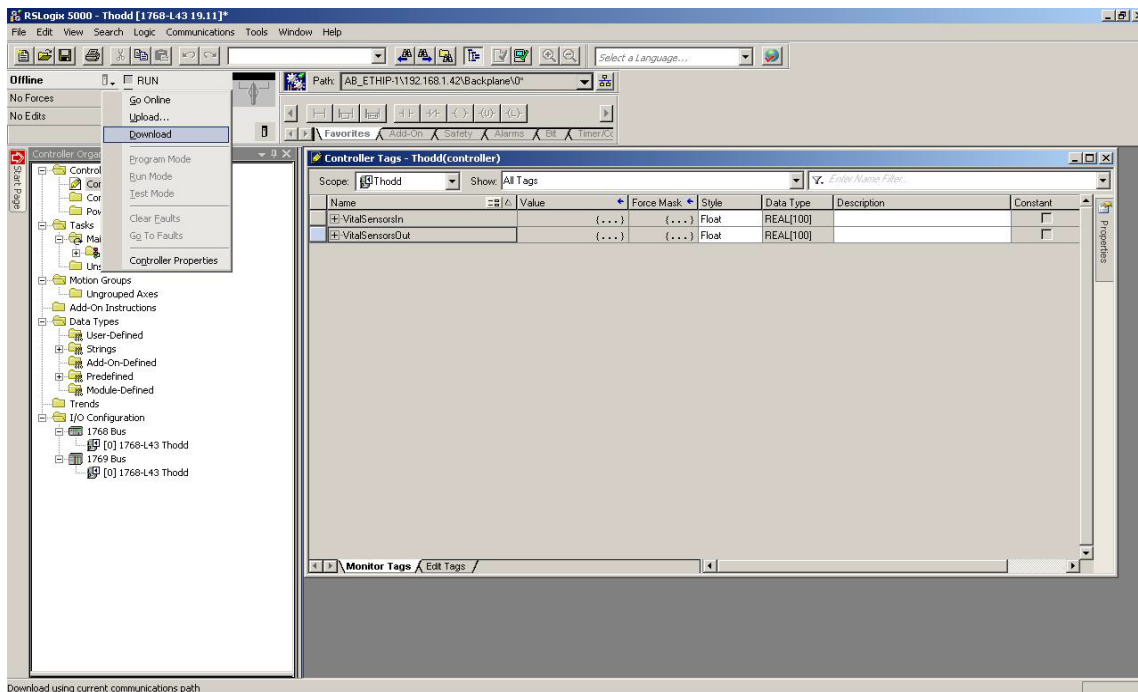

Figure: 10
9. Download new tag setup into PLC. See *Figure 10* below.